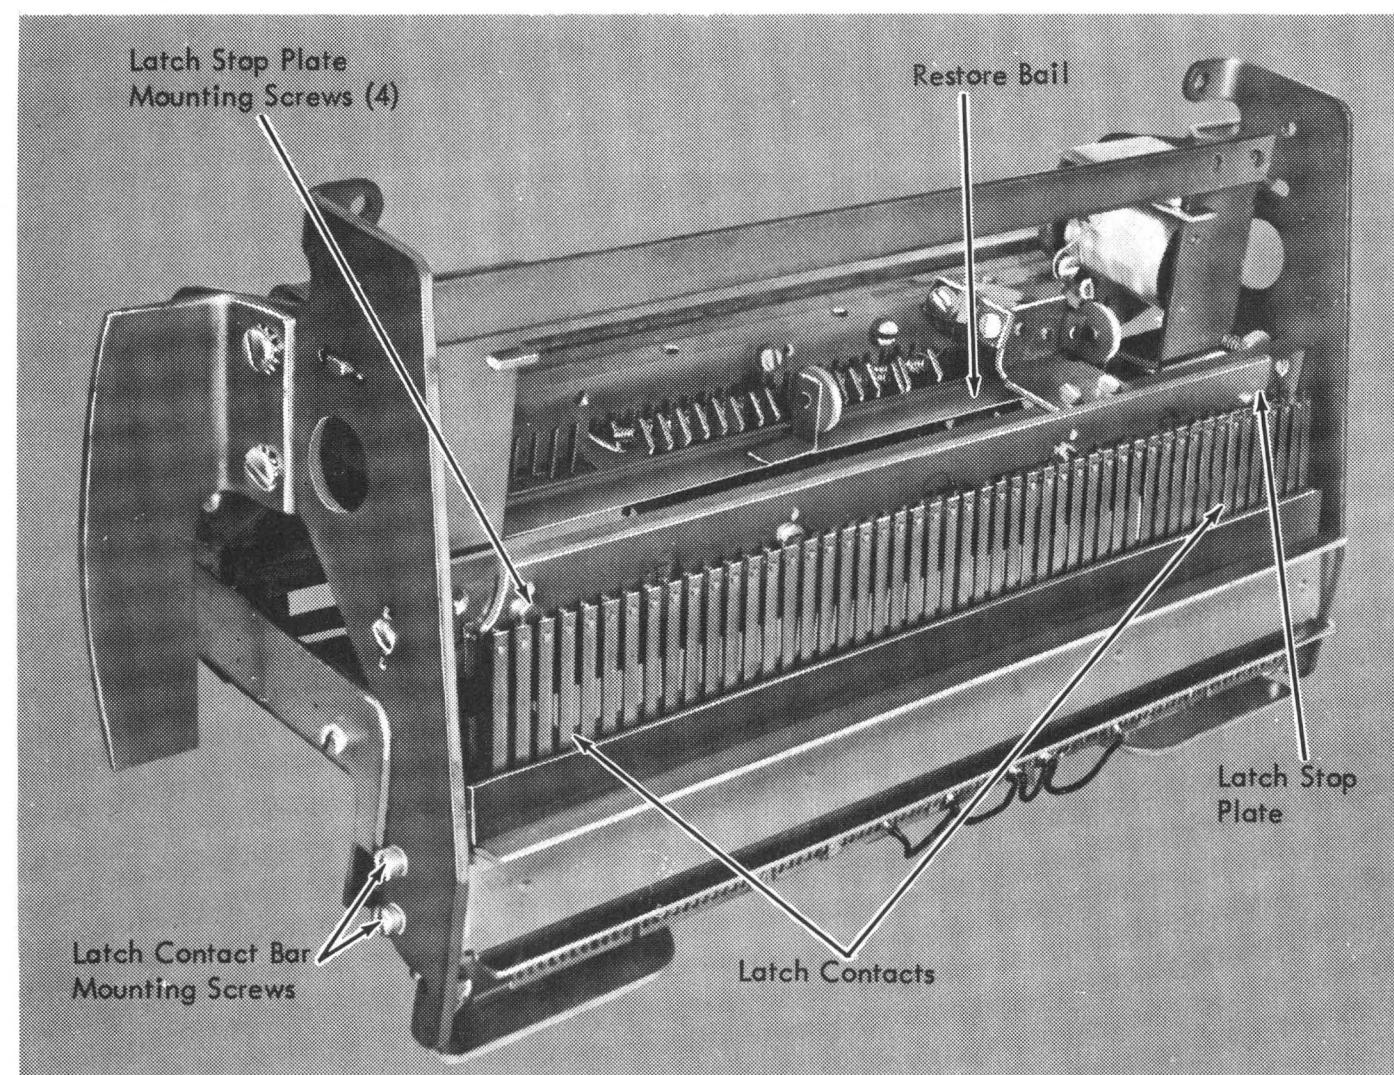

Figure 4-55. Keyboard Permutation Unit – Bottom
- Loosen the four screws (Figure 4-55) that hold the key unit to the permutation unit.
8. Remove the four screws from the latch stop plate (Figure 4-55).